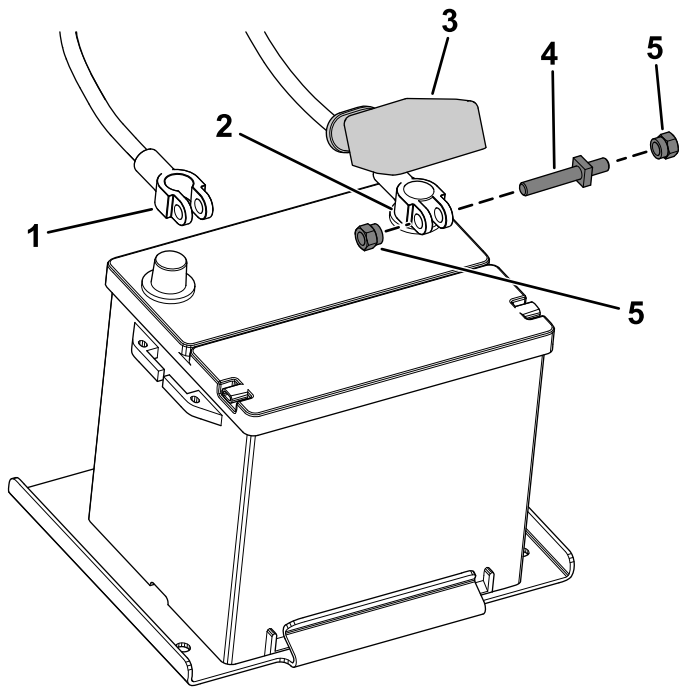

Figure 94
1. Disconnect the battery cables (Figure 94).
2. Connect the battery cables (Figure 94).